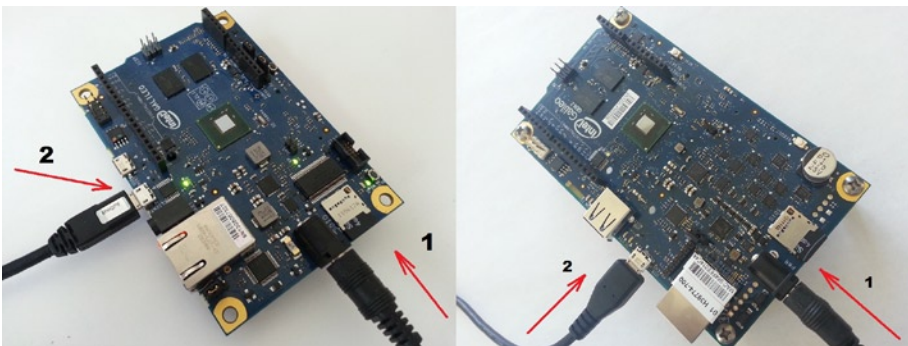

Figure 3-2. Intel Galileo Generation 1 (left) and Intel Galileo Generation 2 (right)
- Check Figure 3-2 (left) if you have a Intel Galileo Generation 1. *Always* connect the 5V power supply (1) before the USB cable on client port (2) to avoid hardware damages.
- Check Figure 3-2 (right) if you have a Intel Galileo Generation 2. *Always* connect the power supply (1) before the USB cable on client port (2) to avoid hardware damages. Remember, the Intel Galileo Gen 2 power supply must be between 7V and 12V DC. You cannot use 5V DC.